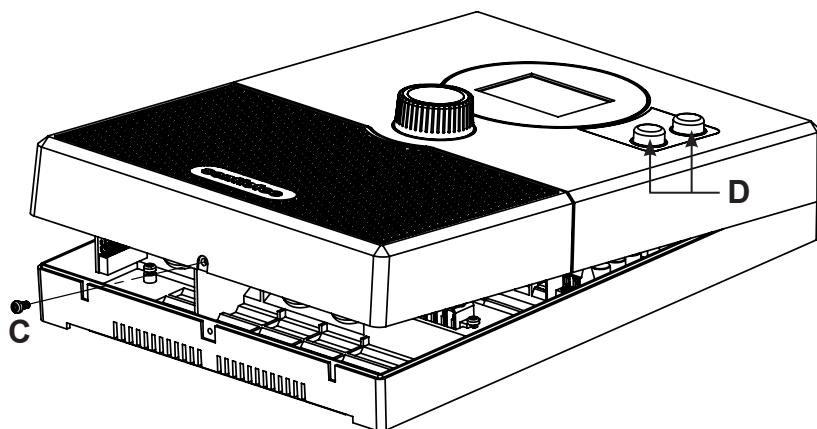

Fig.2 Remove housing cover
2. Use a screwdriver to remove housing screw **C** and lift off the housing cover from the underside (see **Fig.2**).